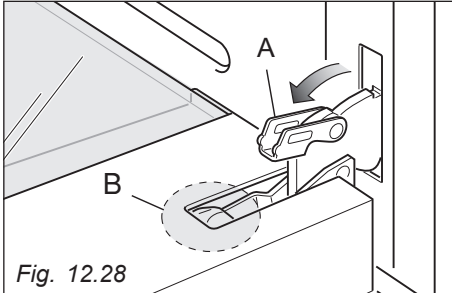
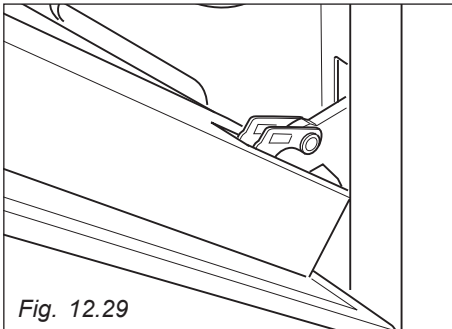

Fig. 12.28
Fig. 12.29
- Fully open the lever "A" on the left and right hinges. (fig. 12.28).
- Gently close the door (fig. 12.29) until the left and right hinge levers "A" are hooked to part "B" of the door (fig. 12.28).
1. Make sure the door is locked open (see fig. 12.29).